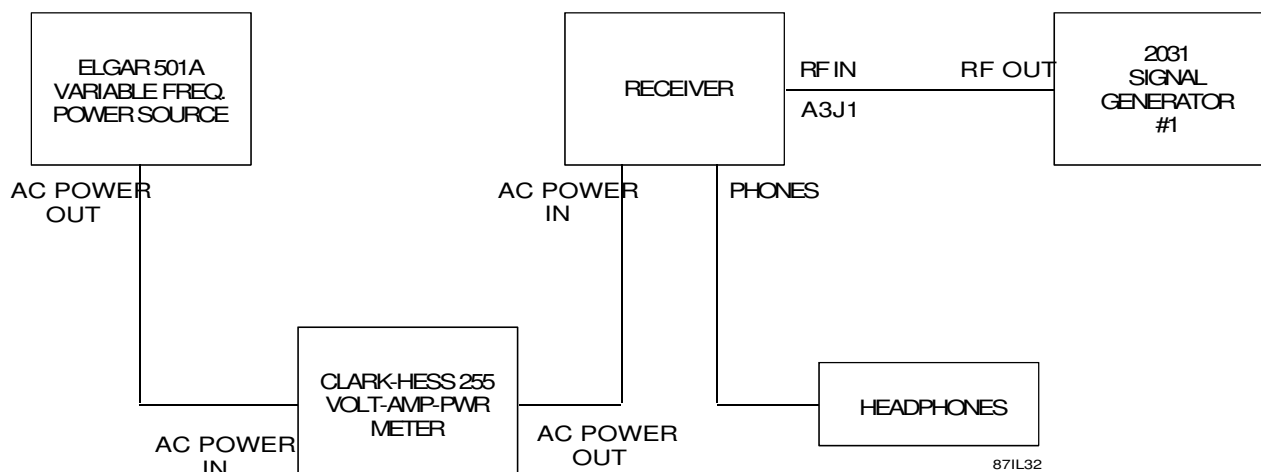

Figure 7-1. Power Consumption Performance Test Equipment Connection
1. Connect the WJ-8711A Receiver and test equipment as illustrated in **Figure 7-1**.